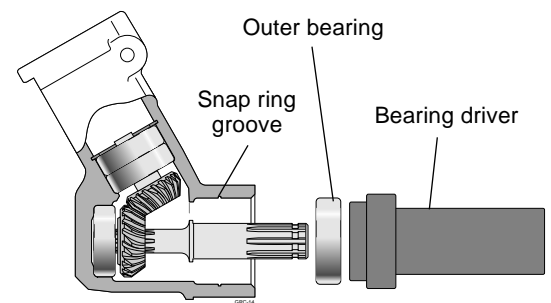

Figure 11.23 Installing the outer bearing.
- STEP 3.** Seat the output shaft bearing using the appropriate bearing driver until it bottoms past the internal snap ring groove (Figure 11.23).